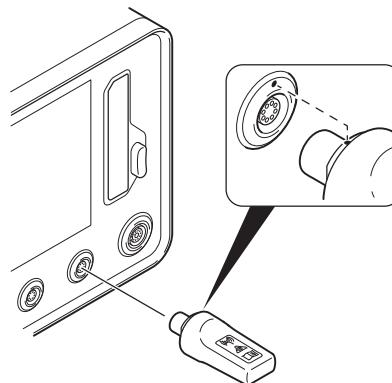

Figure 74 – Wireless Receiver Connection
2. If using a wireless foot pedal, install the wireless receiver into the console foot pedal port (Figure 74).